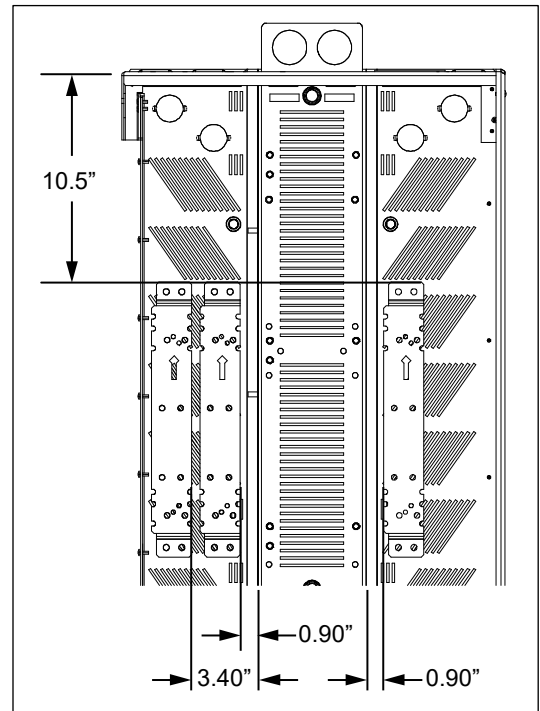

Figure 3 Radio Bracket Locations
1. Hold the bracket in the designated location (Figure 3). Measure outward from the side of the central spine. Ensure the bracket is level.